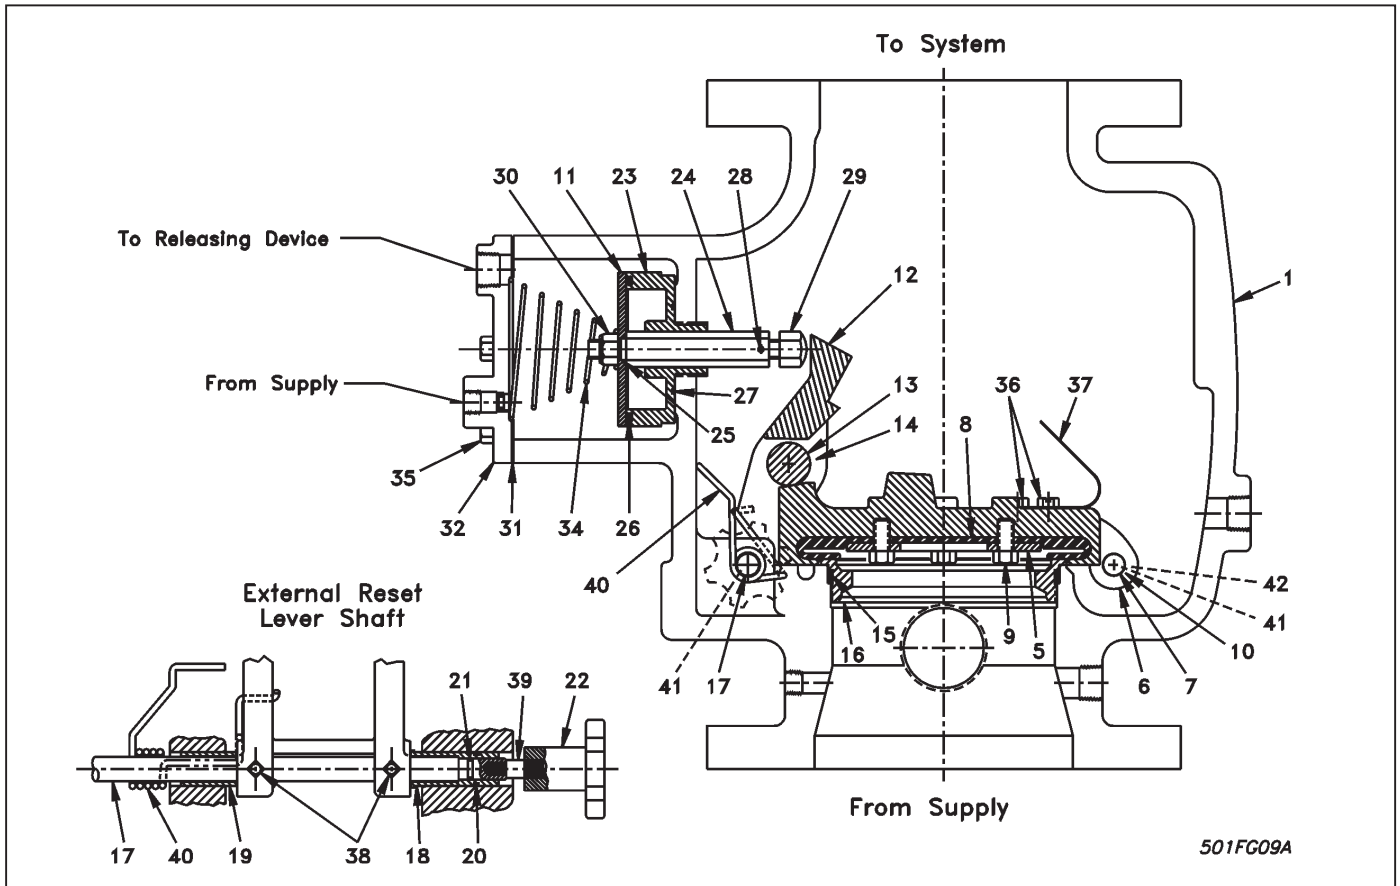

Figure 9
5. For inspection and resetting, remove Body Cover (2, Fig. 9) and raise Clapper (6, Fig. 9) to wide open position. Thoroughly clean the body seat surface making certain it is free from scale, dirt, lint, etc. NEVER APPLY GREASE, COMPOUND, SHELLAC OR ANY OILY SUBSTANCES TO SEAT OR RUBBER FACING. For resetting only, rotate Knob (22, Fig. 9 & 10) clockwise, until you hear a distinct noise indicating the clapper has reset, and then proceed to step 9.
6. Clean Rubber Facing (8, Fig. 9) by hand, making certain that it is free from scale, dirt, lint, etc.
7. Push Lever (12, Fig. 9) to the left and lower the clapper onto the seat.
8. Replace Gasket (3, Fig. 9) and the body cover and uniformly tighten Cover Bolts (4, Fig. 9).
2. Steady water flow into the drip cup. This condition is caused by water leaking past Clapper Rubber Facing (8, Fig. 9) ; Seat "O"-Ring (15, Fig. 9); Push-Rod "O"-Rings (25 and 27, Fig. 9) or Push-Rod Guide "O"-Ring(26, Fig. 9). To locate and correct the trouble, proceed as follows:
- b. Remove Body Cover (2, Fig. 9) and open Valve (5, Fig 2). Look for leakage coming from around Push-Rod (24, Fig. 9) or Push-Rod Guide (23, Fig. 9). If leakage is coming from the push rod chamber, proceed as follows:
2. Remove Push-Rod Cover (32, Fig. 9), Spring (34, Fig. 9) and Push-Rod (24, Fig. 9). Inspect and clean Disc Plate (11, Fig. 9) and Push-Rod Guide "O" Ring (26, Fig. 9). Replace the "O"-Ring, if required, and reassemble the unit.
3. If leakage still occurs, replace "O"-Rings (25 & 27, Fig. 9). Proceed as follows: Remove Push-Rod Cover (32), Spring (34) and Push-Rod (24); unscrew Pus- Rod Guide (32) from Body (1) and Nut (30) from Push-Rod (24). Lubricate and replace "O"-Rings (25 & 27) and reassemble.
- c. If leakage is not coming from the push-rod, clean and inspect Seat (16) and Clapper Facing (8). If it is necessary to replace the facing, proceed as follows: